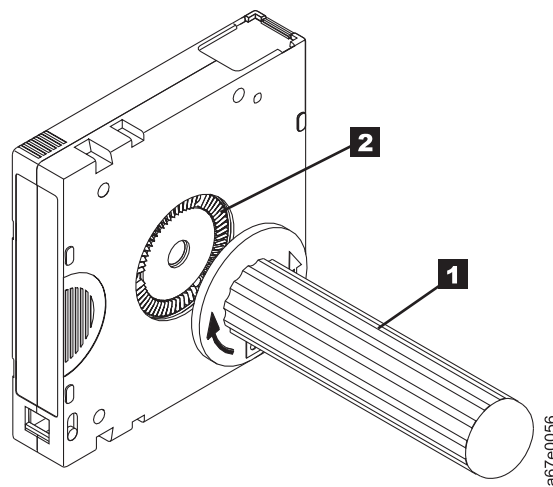

Figure 4-10. Rewinding the tape into the cartridge
5. To rewind the tape, insert the cartridge manual rewind tool (1 in Figure 4-10) into the cartridge's hub (2) and turn it clockwise until the tape becomes taut.